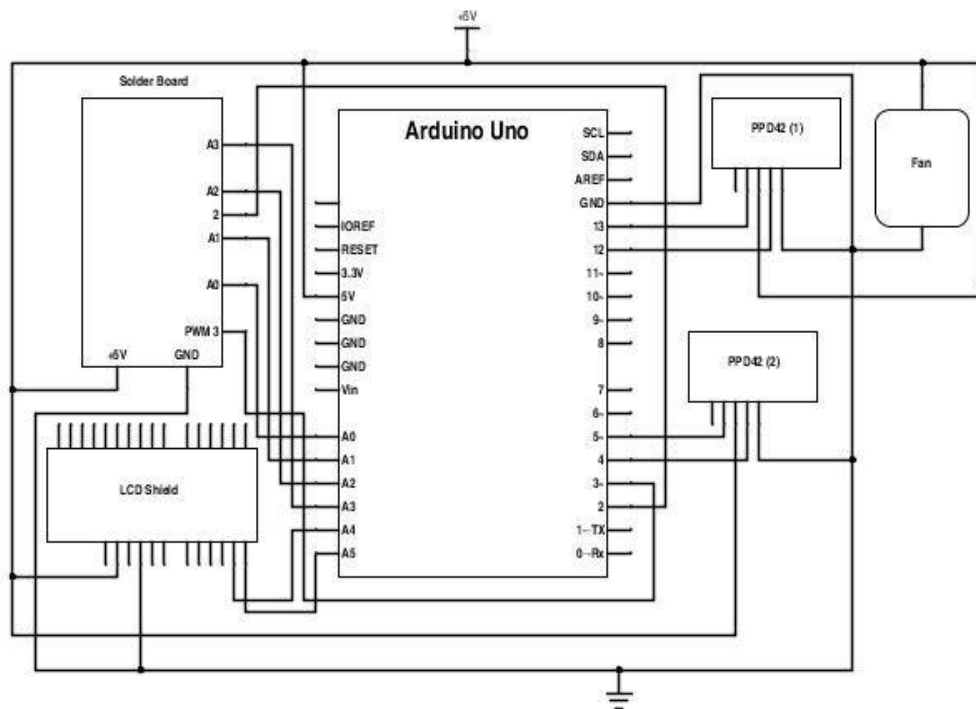

Figure 1- The figure above is the circuit diagram for the air pollution detector
- i. Figure 1 contains the circuit diagram for the air pollution detector to be constructed. Most of the digital ports and analog ports can be changed on the Arduino can be changed but the code will have to be modified as well.